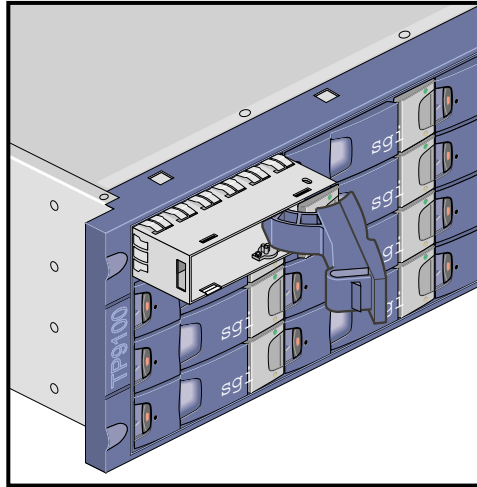

Figure 6-6 Removing the Drive Carrier Module
5. Open the handle by pressing the latch on the module handle towards the right. Then gently slide the module out of the enclosure approximately 25 mm (1 inch) and wait 30 seconds. See Figure 6-6.